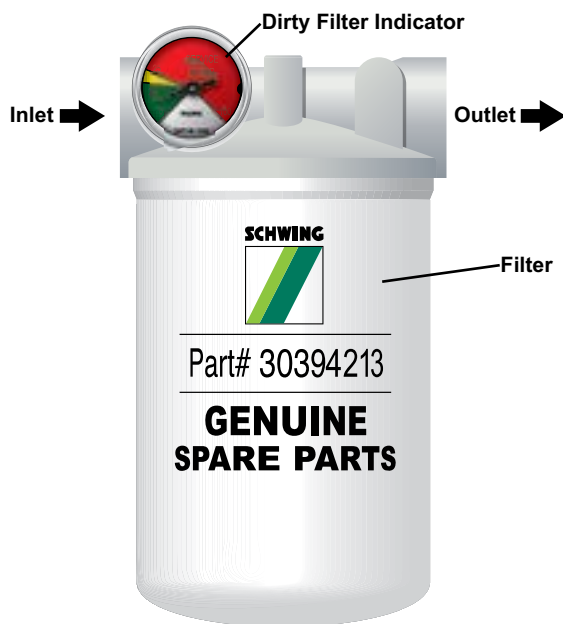

Figure 3
- Your concrete pump is equipped with a recirculation type of filtration system, meaning that there is a pump that sucks oil from the reservoir, pumps it through the filter and cooler, and back to the tank. Whenever the engine is running, oil is being filtered. The filtration is done with a spin-on filter assembly (Figure 3). It is equipped with an integral bypass check valve set at 50 psi. The bypass valve protects the filter element from damage, as explained below. The assembly is equipped with an anti-back-flow check valve, which prevents oil from draining out of the tank while you are changing the spin-on element. There is a dirty filter indicator to tell you when the element is dirty. You should replace the element whenever the indicator enters the yellow area and the oil is heated above 20°C. Under normal circumstances, the element will need replacement about every 6 months. The element has been designed to remove all particles large enough to cause undue wear and jobsite breakdowns ($\beta_{10} = 200$). You can keep the hydraulic system running year after year by replacing the element when replacement is due. Do not substitute "will fit" elements in this housing.